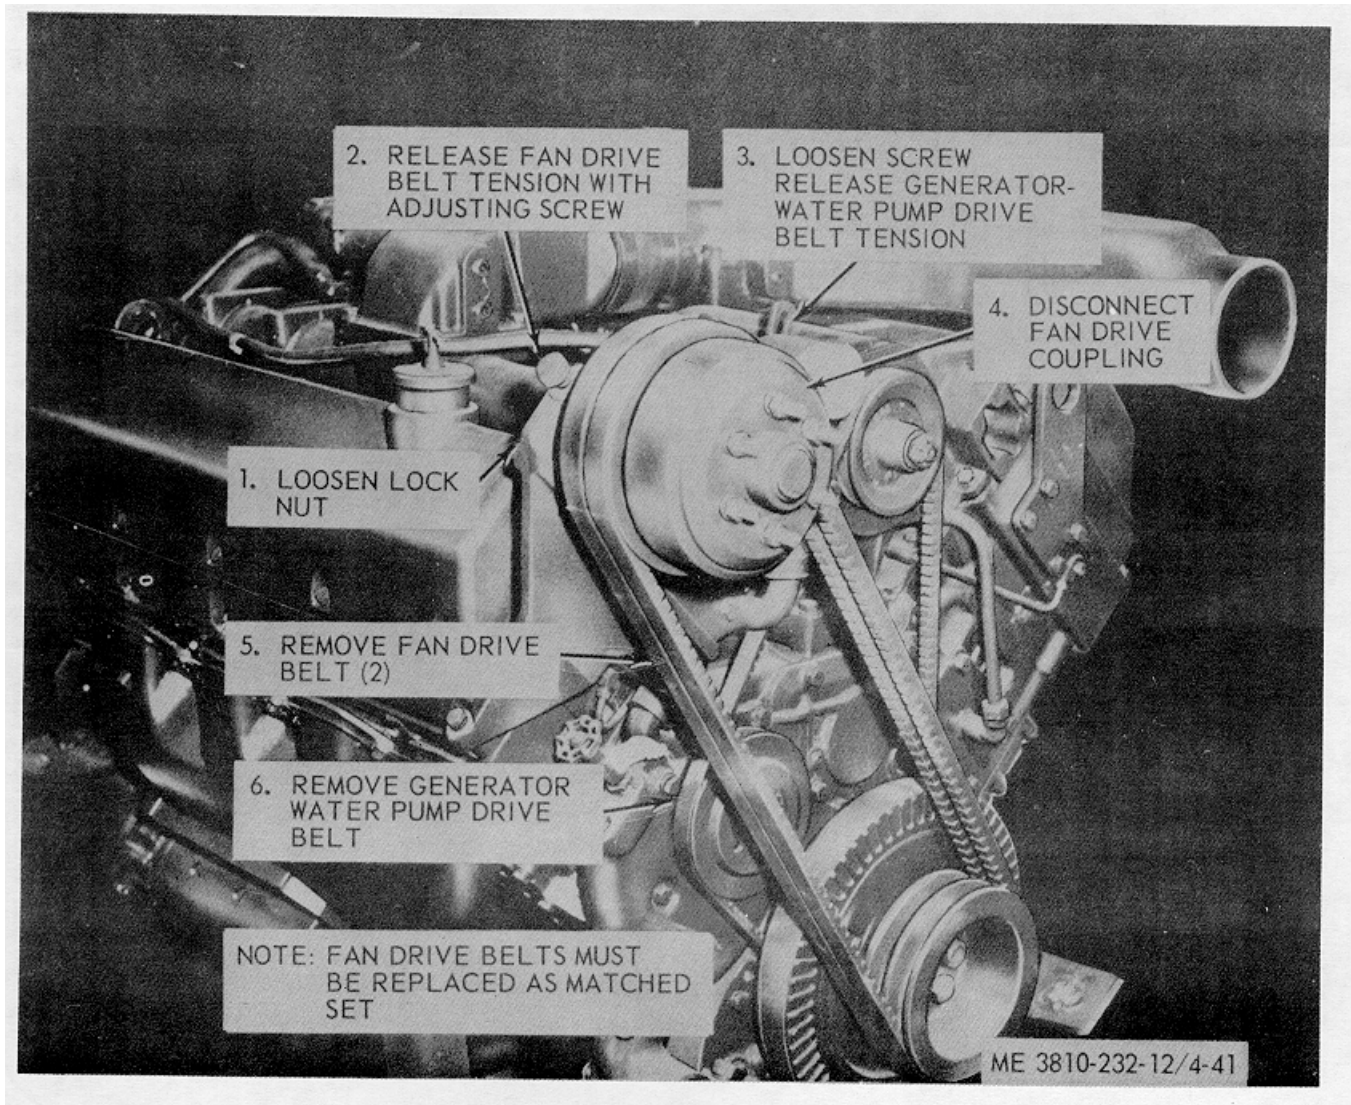

Figure 4-41. Fan belts and water pump and generator drive belt, removal and installation (model 2380).
(1) Remove deck plate.
(2) Remove belts in numerical sequence as illustrated in figure 4-41.
(1) Install belts in reverse of sequence illustrated in figure 4-41 and adjust belt tension as instructed in figure 3-11.
(2) Install deck plate.